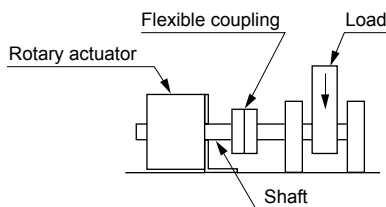

Fig. 2 Radial load
When unavoidable, use a mechanism transmitting only rotation as shown in Fig. 2.
- (2) Second, remove the seal washer cap (2) by hand to reach the state shown in Fig. 2.